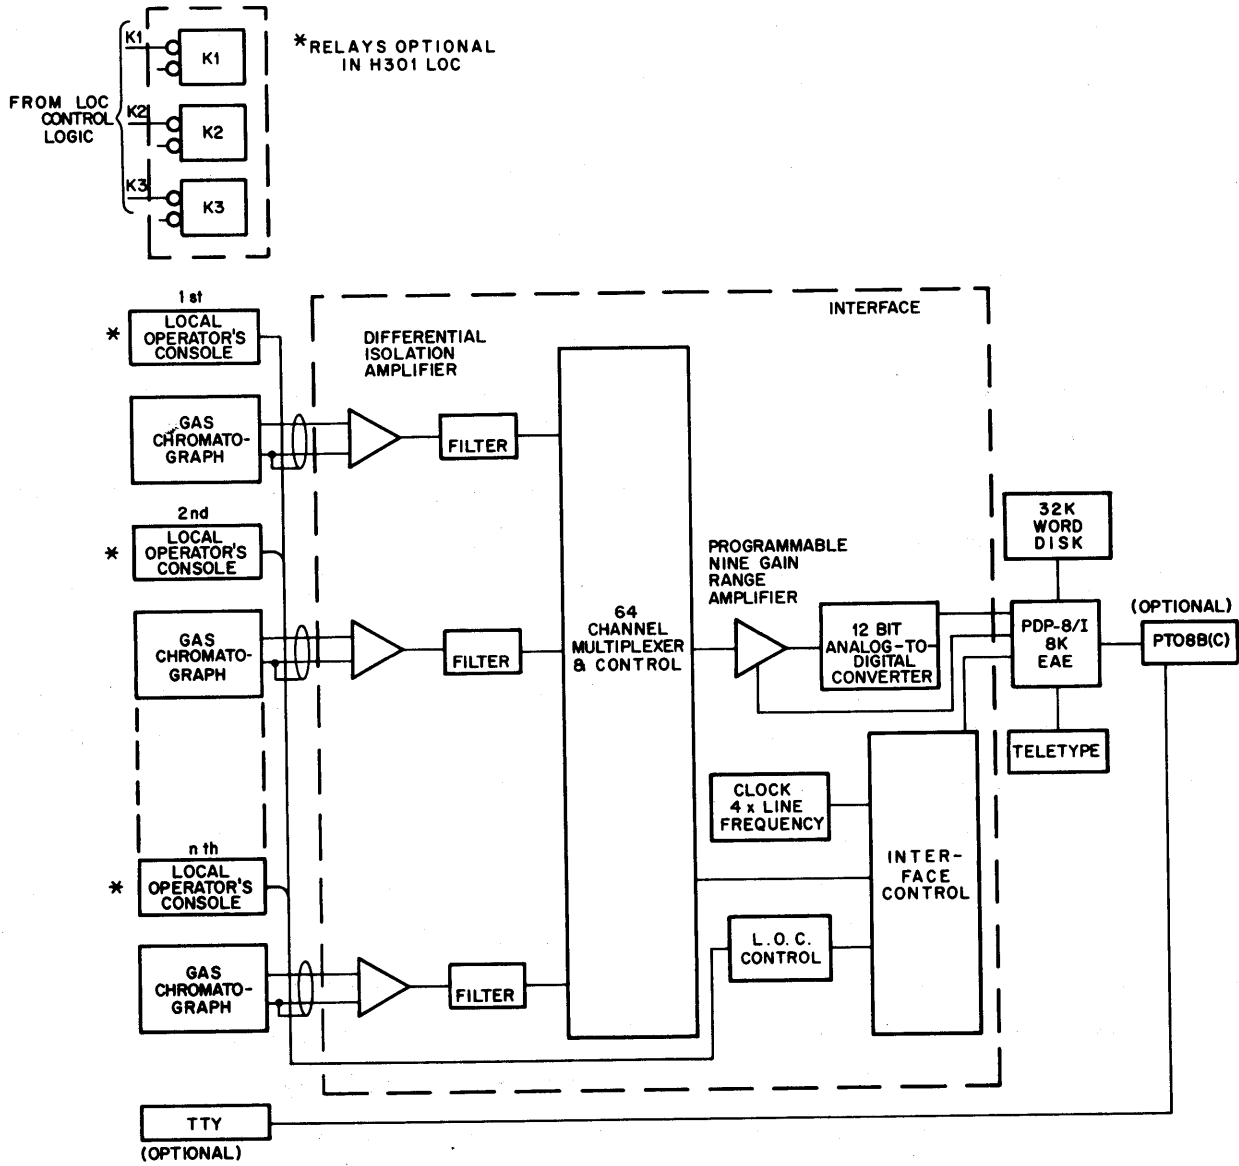

Figure 3-1 System Configuration
3.1 GLC-8 SYSTEM SIGNAL FLOW (See Figure 3-1)
To minimize common-mode and normal-mode noise pickup, a shielded, twisted-pair cable is recommended for carrying the analog signal from the chromatograph to the GLC-8 interface. The shield of this cable should be connected to ground at the source end only, as shown in Figure 3-1.